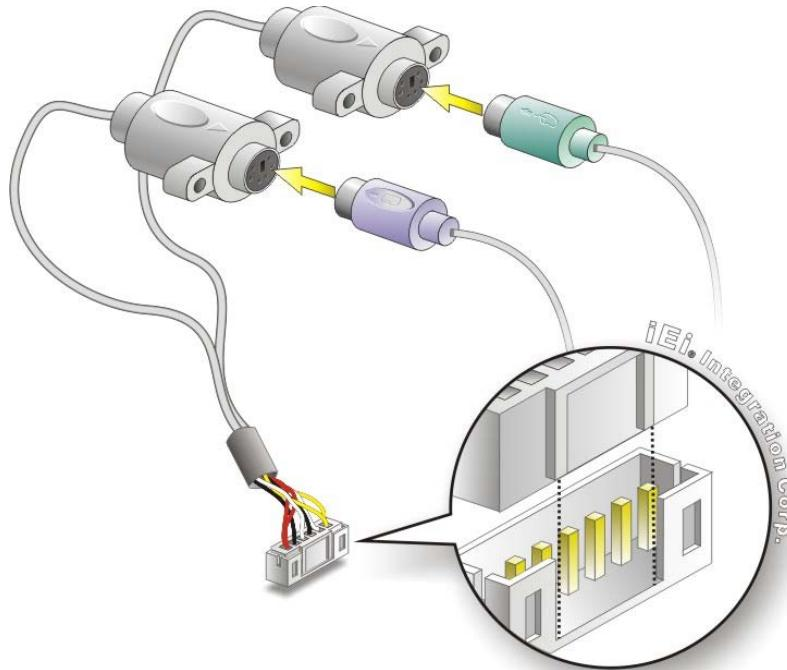

Figure 4-9: Keyboard/mouse Y-cable Connection
**Step 2: Align the connectors.** Correctly align pin 1 on the cable connector with pin 1 on the WAFER-PV-D5251/N4551 keyboard/mouse connector. See Figure 4-9.
**Step 3: Insert the cable connectors** Once the cable connector is properly aligned with the keyboard/mouse connector on the WAFER-PV-D5251/N4551, connect the cable connector to the on-board connectors. See Figure 4-9.